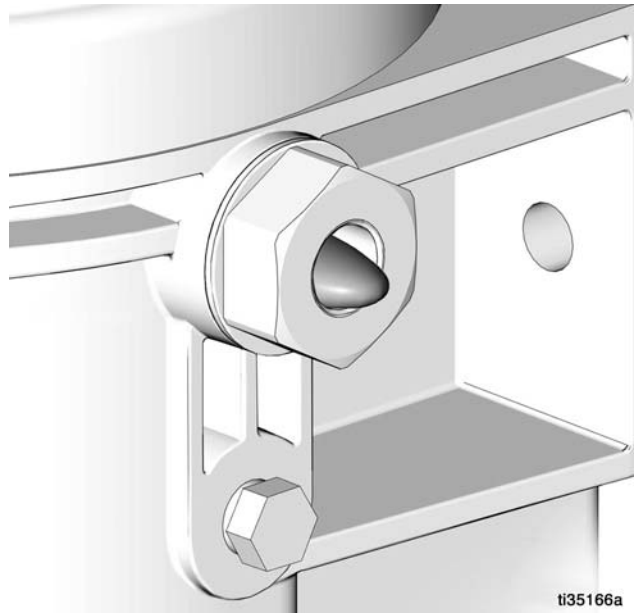

FIG. 20
2. Only run the pump until air is no longer dispensed with the lubricant out of element fitting (FIG. 20).